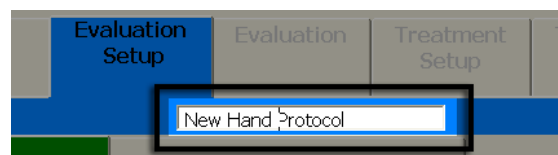

Figure 4e
**Note:** This name can be edited at any time by clicking the “Modify” button at the bottom of the screen and placing the cursor in the white text field at the top just underneath the *Evaluation* Tab (Figure 4e).
- e. This will make all fields active, including the template name text field (Figure 4e). If you want to rename the template, click inside the white text field to place your cursor.
This will make all fields active, including the template name text field (Figure 4e). If you want to rename the template, click inside the white text field to place your cursor. Clear undesired text using the delete/backspace keys on your keyboard and type in your new name.
- d. This will make all fields active, including the template name text field (Figure 4e). If you want to rename the template, click inside the white text field to place your cursor. Clear undesired text using the delete/backspace keys on your keyboard and type in a new name.